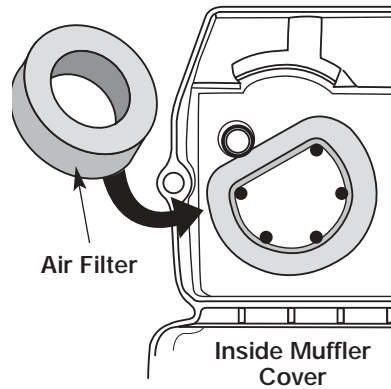

Fig. 20
2. Turn cover over and look inside to locate the air filter. Remove the air filter from inside the air filter/muffler cover (Fig. 20).
6. Replace the air filter inside the air filter/muffler cover (Fig. 20).